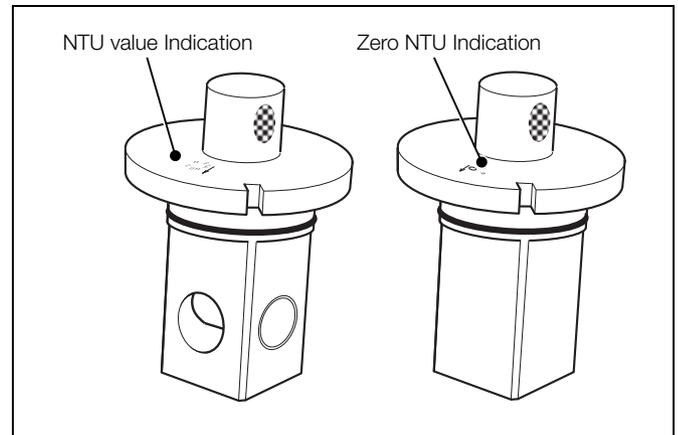
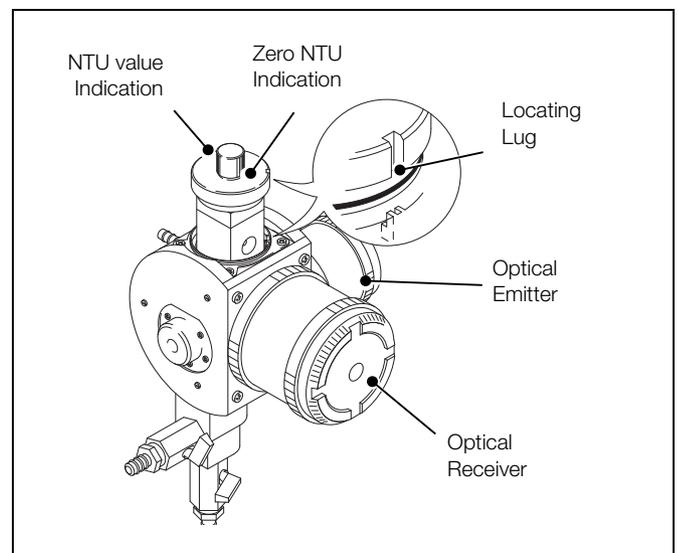

Fig. 7.2 Dry Calibration Standard for Low Range Sensors
Fig. 7.4 Inserting Dry Standard
6. Insert the dry calibration standard with the zero NTU indication (see Figs 7.2 or 7.3) facing the optical receiver, ensuring the locating lug engages correctly – see Fig. 7.4.
8. Remove the dry standard, rotate it through 180° and refit it, ensuring that the NTU value indication (see Figs 7.2 or 7.3) faces the receiver and the locating lug engages correctly – see Fig. 7.4.